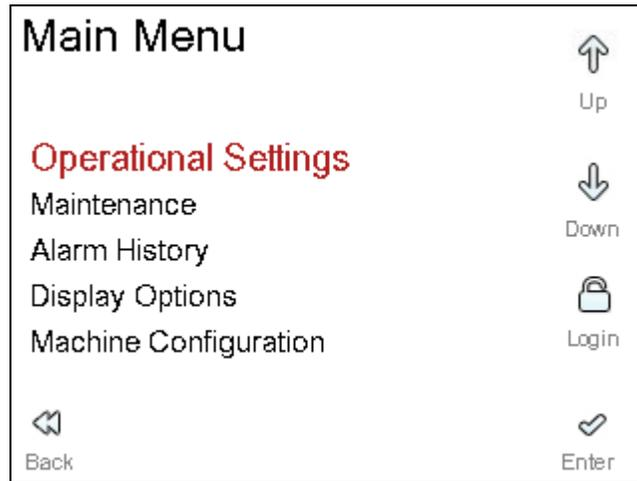
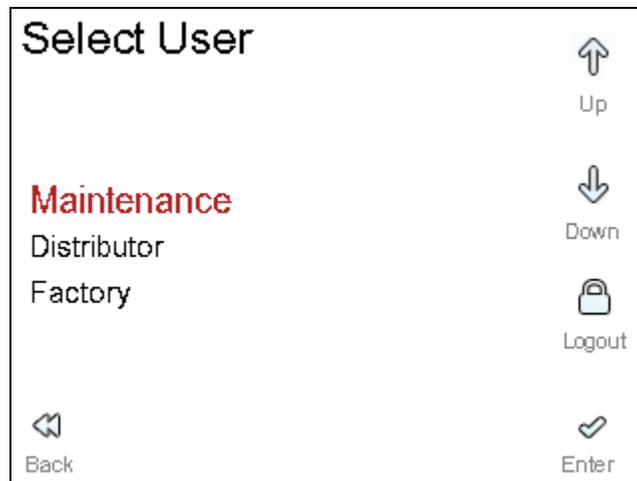

Figure 2-13: Main Menu
Figure 2-14: Select User Screen
2. From the *Main Menu*, select the *Login* button  as shown in Figure 2-13. The *Select User* menu will appear as shown in Figure 2-14.